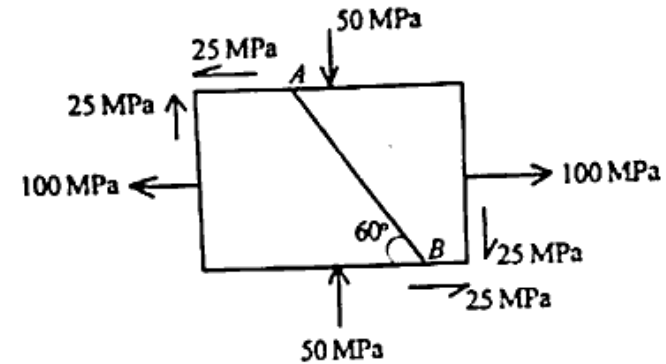

Figure 3
4. A machine component is subjected to stresses as shown in Figure 3.